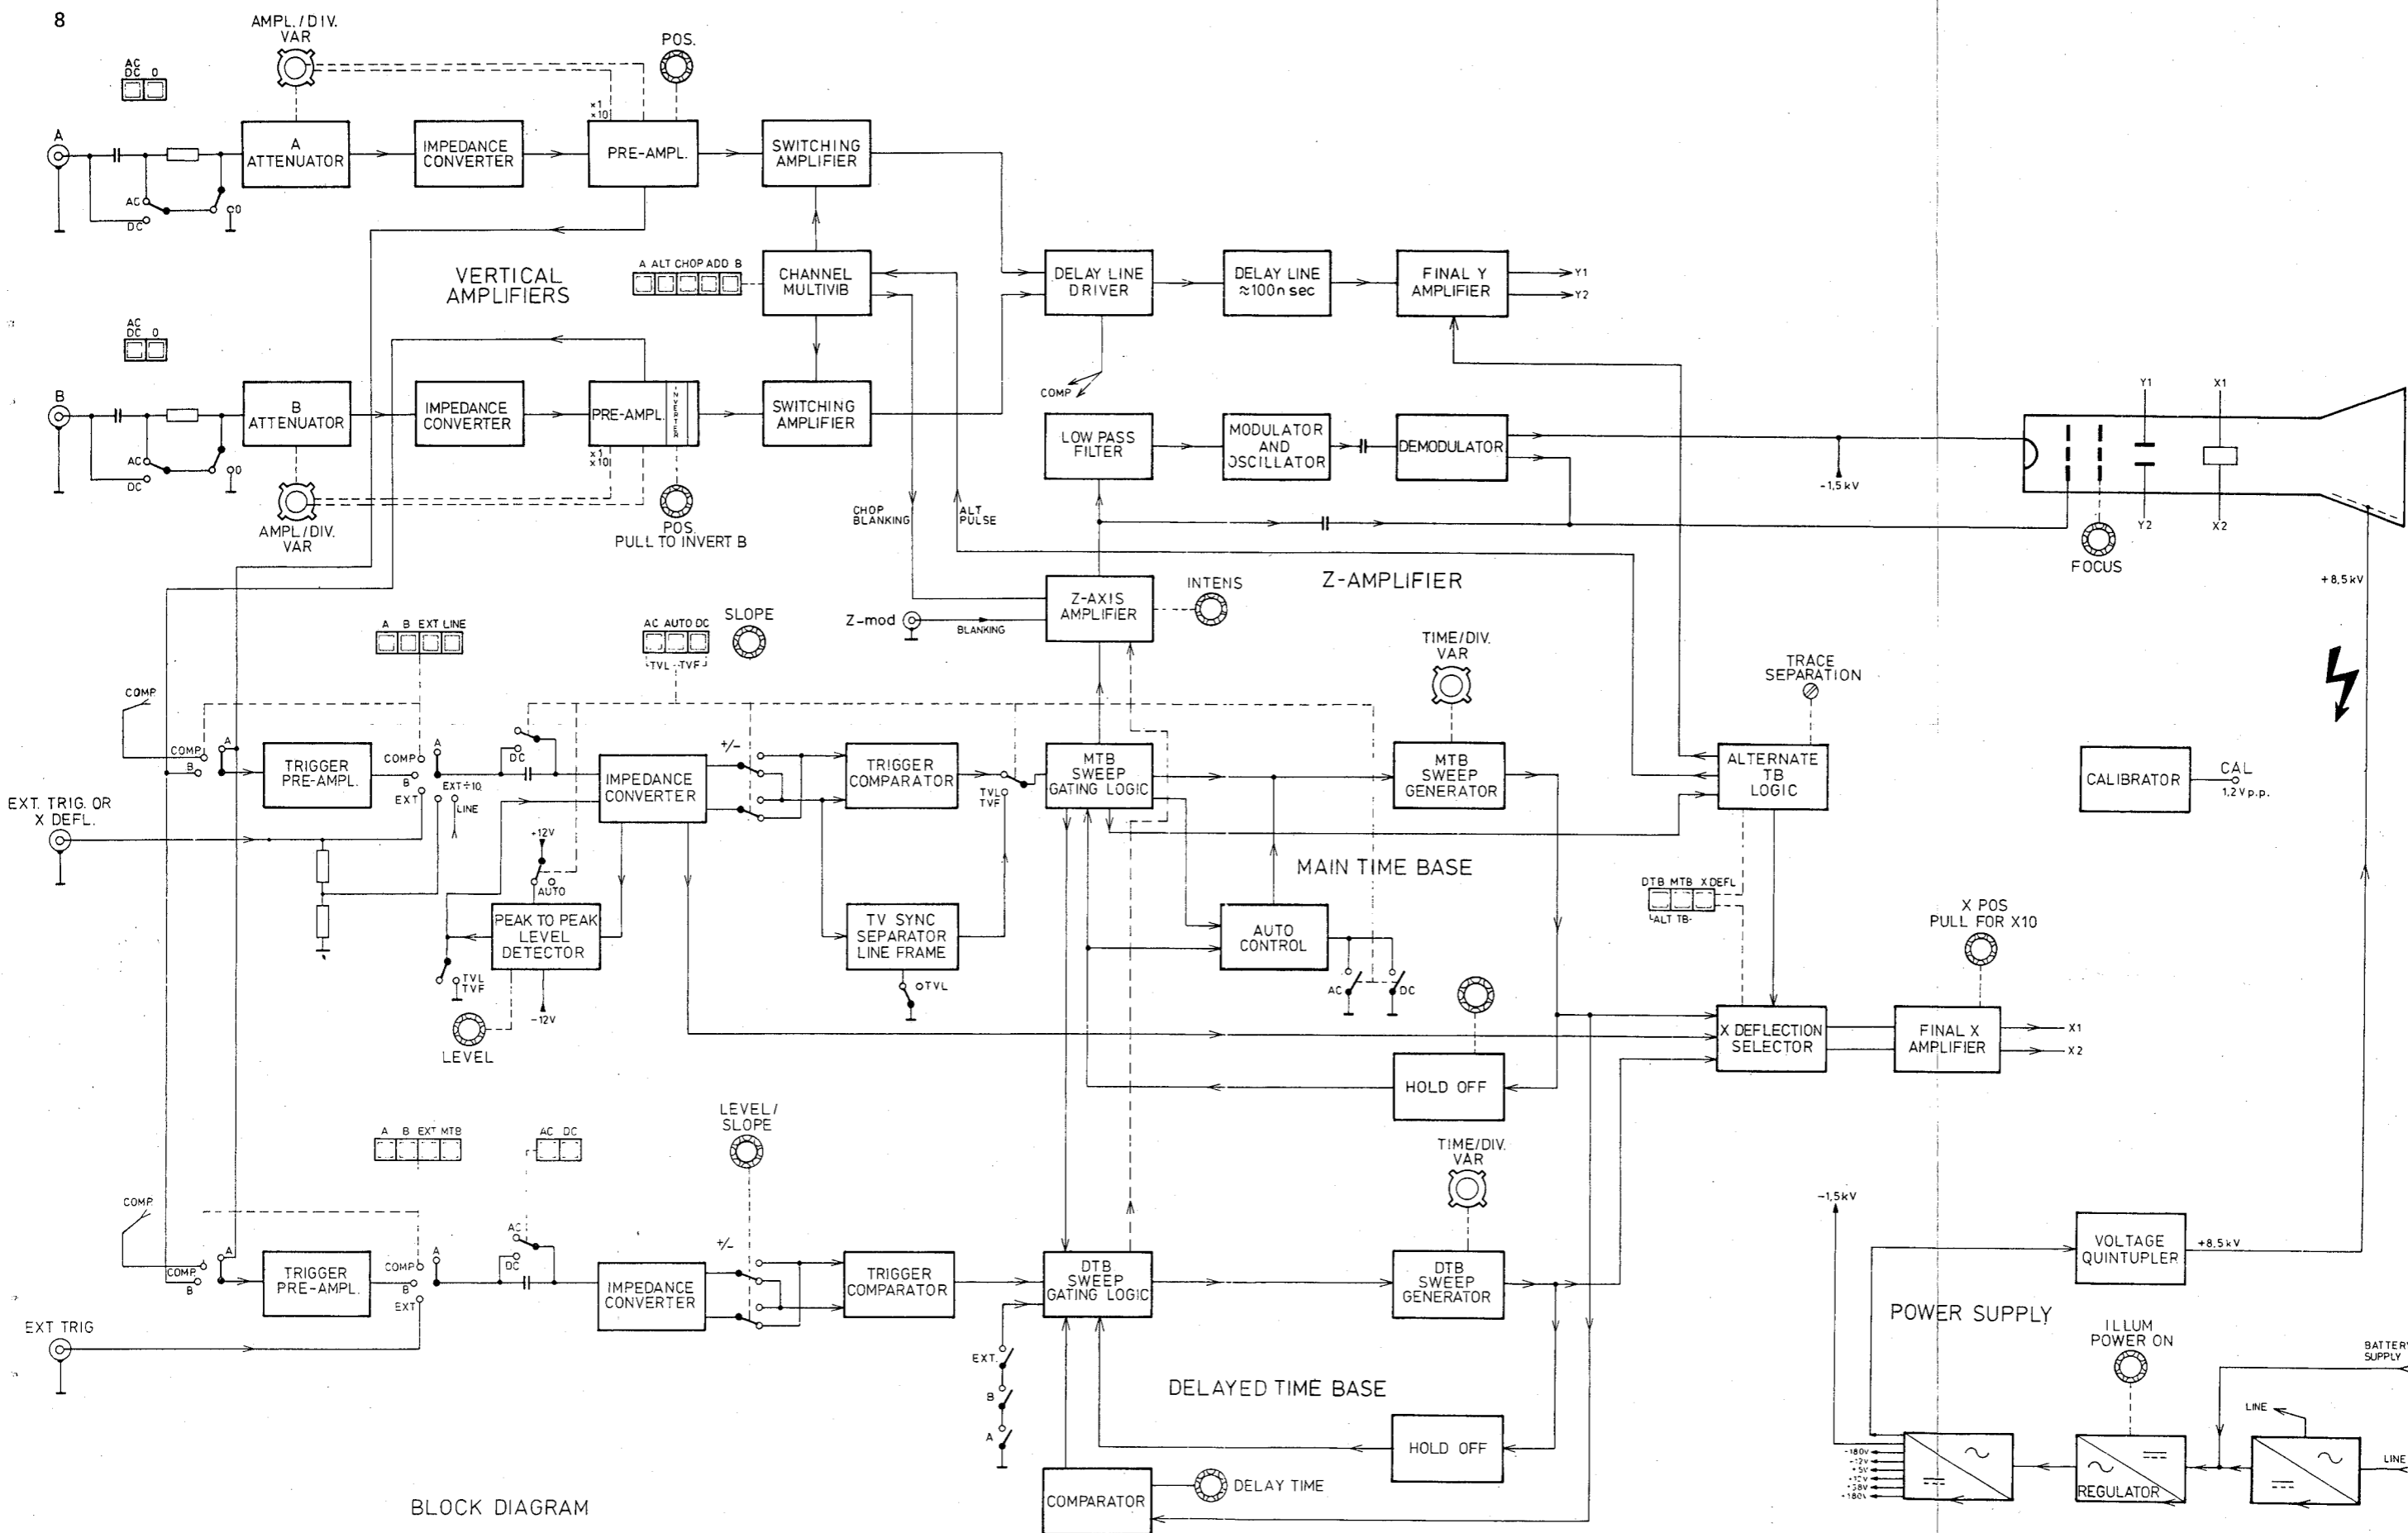

Fig. 2.1. Block diagram
2.1. BLOCK DIAGRAM DESCRIPTION (see fig. 2.1.)